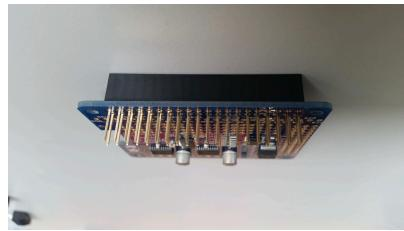

Figure 3.4.
- 4) Slide in the GPIO Stacking Header onto the 2x20 grid of holes on the edge opposite the terminal blocks and with vice versa direction (Figure 3.4). Solder it on.